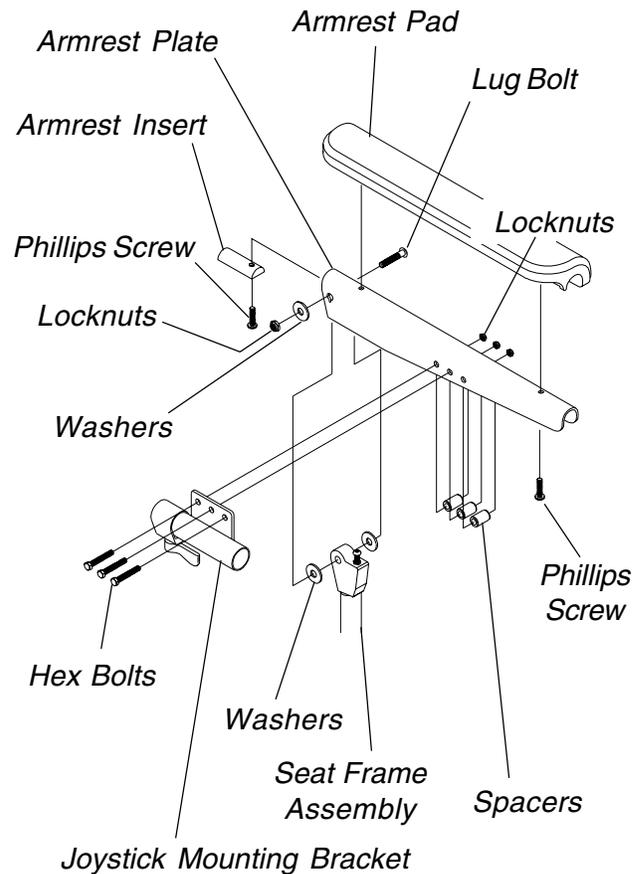

FIGURE 2 - REPLACING ARMREST PLATE
**REPLACING ARMREST PLATE (FIGURE 2)**
1. If necessary, remove the three (3) hex bolts, spacers and locknuts that secure the joystick mounting bracket to the armrest plate.
4. Position the new armrest plate on the seat frame assembly and secure with the lug bolt, washers and locknut. Refer to FIGURE 2 for correct hardware orientation.
6. If necessary, reinstall the three (3) hex bolts, spacers and locknuts that secure the joystick mounting bracket to the armrest plate.